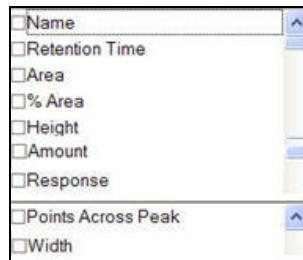

Figure 136 - Peak Table Columns to be displayed
9. Click **Hide All**, scroll down to view all the column names and then uncheck the boxes as shown in Figure 136 to display only the desired columns.